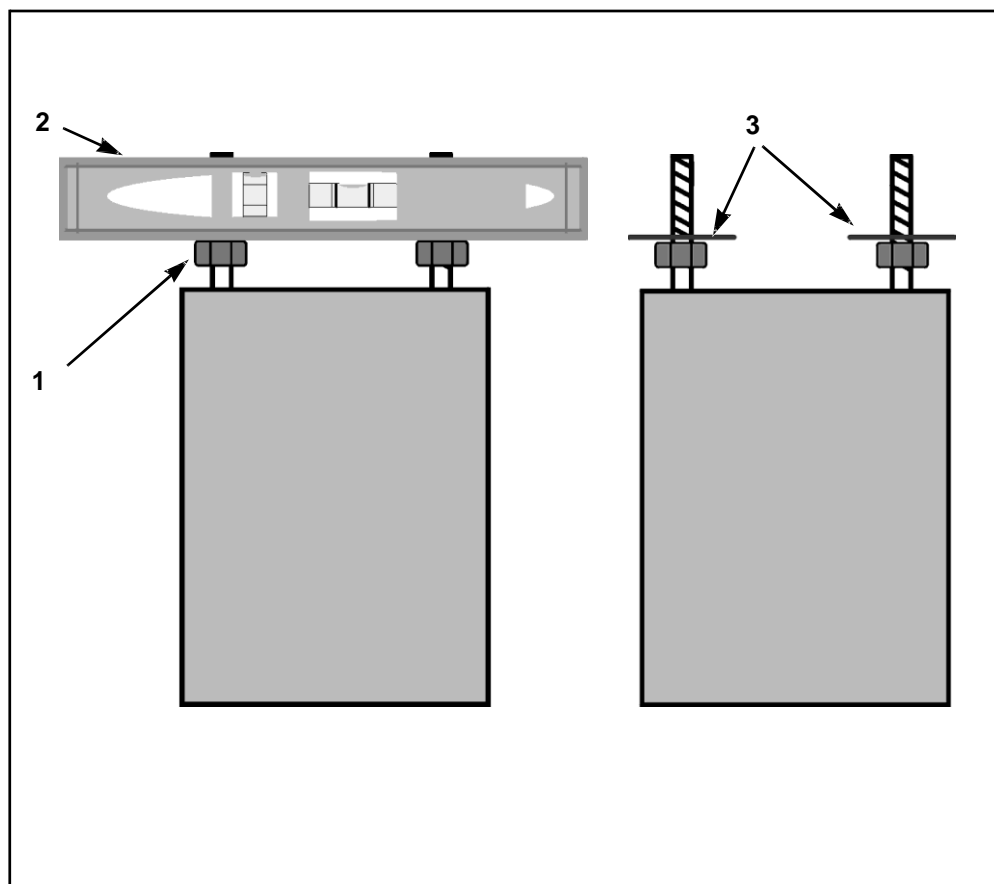

Figure 6. Leveling the Anchor Nuts for the L-807 Wind Cone
12. Use a carpenter level to level the anchor in all directions, see Figure 6. Check this several times as the concrete is curing.
14. Place a level across two of the 3/4" nuts, see Item #2 in Figure 6. Raise or lower the nuts until they are level, in all directions. This ensures that the post will be level when placed onto the anchor.
15. Place a flat washer on top of each of the four 3/4" nuts, see Figure 6.
1. Verify that the anchor has a 3/4" nut turned onto each of the anchor's four corner posts and that they have been leveled, see Figure 6. The four bottom nuts are used to level the pole. These nuts must be leveled prior to mounting the pole, see "Installing the L-807 Wind Cone Anchor" on page 19.
2. Verify that a flat washer has been placed on top of each 3/4" nut, see Figure 6.